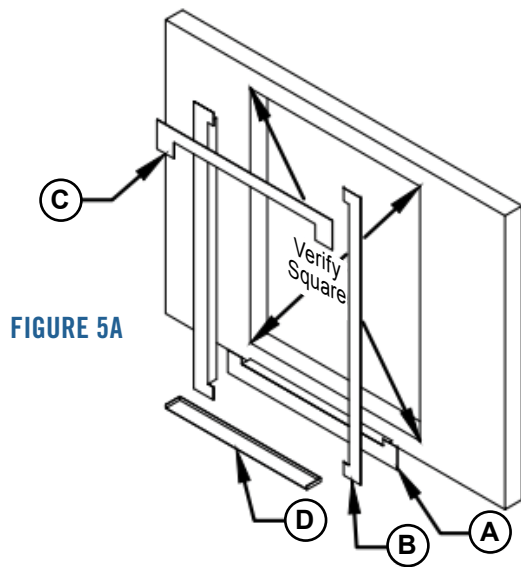

FIGURE 5A
9. Prepare rough opening by checking diagonal dimension of opening to verify square and apply water resistant barrier as shown in figure 5a. Use steps A through C for applying water resistance barrier. Use step D for installation of sill pan.